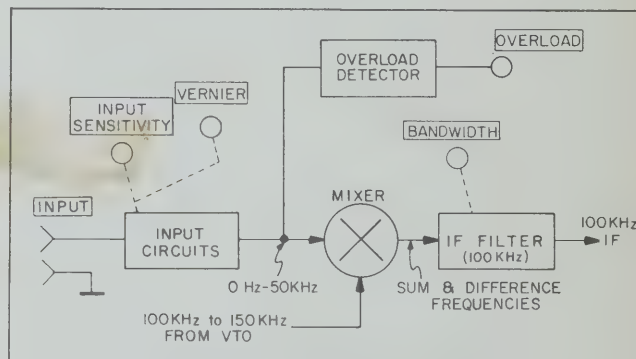

Figure 3-13. Frequency Tuning.
3-81. Refer to Figure 3-13 for the following discussion. The 3580A uses a heterodyne technique where the 0 Hz to 50 kHz input signal is mixed with a 100 kHz to 150 kHz signal from a Voltage-Tuned Local Oscillator (VTO). To select a given frequency present at the input of the Mixer, the VTO frequency is tuned so that the difference between it and the frequency of interest is 100 kHz. The 100 kHz intermediate frequency (IF) is fed through the IF Filter, detected and applied to the vertical axis of the CRT display. Signals outside the passband of the IF Filter are rejected. The BANDWIDTH setting determines the bandwidth of the IF Filter and thus, the selectivity of the instrument.